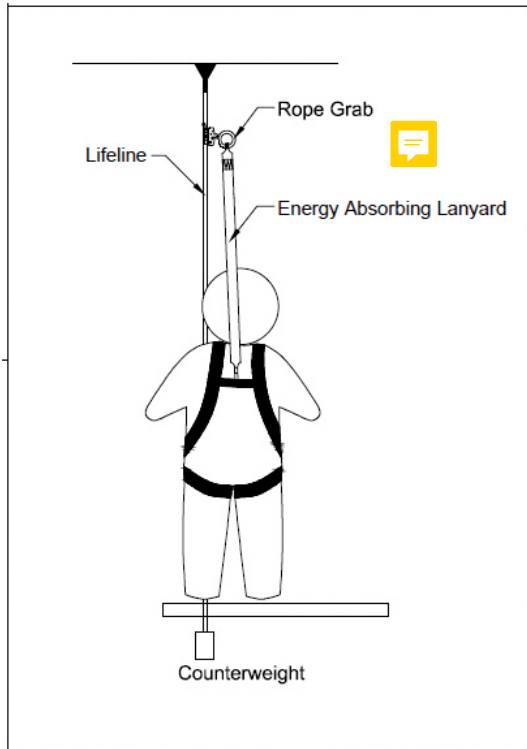

Figure 2– Fall Arrest
1. **PURPOSE:** The **HiiGard** rope grabs are intended to be used as part of a personal fall arrest system. Applications for these rope grabs include most activities where there exists the need for fall arrest or restraint (on sloped surfaces) Figures 2 and 3 are examples of these applications. This rope grab is a part of a complete fall arrest system, including approved lifeline (only lifelines listed in these instructions can be used), integrally attached shock absorbing lanyard (supplied with **HiiGard** – only these shock absorbing lanyards can be used) and full body harness. Maximum permissible free fall is 1.8 m (6 feet). The rope grab can **ONLY** be used with the supplied integrally attached shock absorbing lanyard.